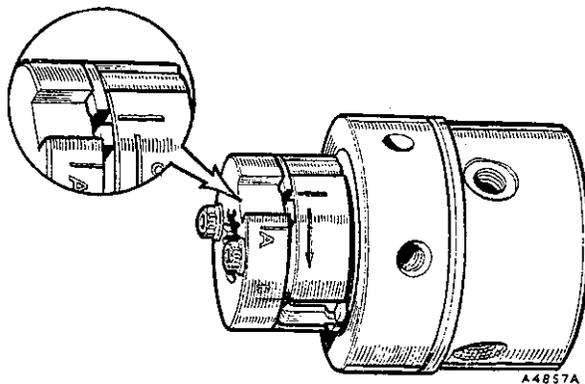
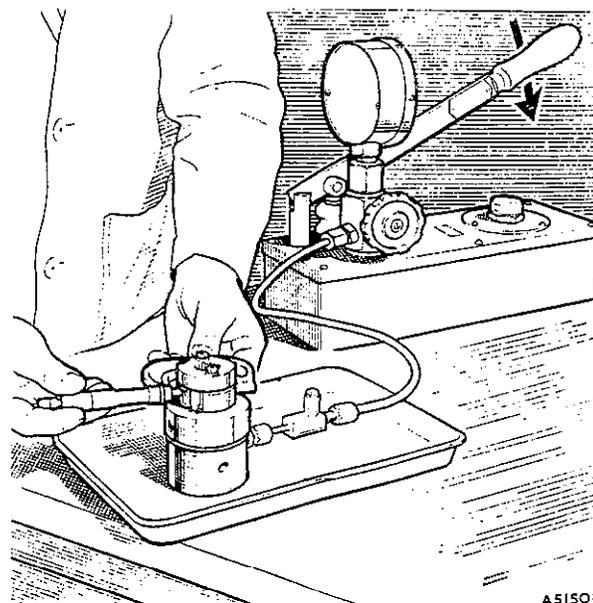

Fig. C.10
Fig. C.12
- (44) Withdraw the rotor from the hydraulic head and fit the top adjusting plate so that the slot in its periphery is in line with the mark on the rotor (see Fig. C.10).
- (45) Fit the drive plate to the rotor with its relieved face next to the top adjusting plate and the slot in the periphery of the drive plate in line with the mark on the rotor (see Fig. C.10). Tighten the drive plate screws lightly and insert the roller and shoe assemblies into their guides in the rotor. Make sure that the contour of the roller shoe ears conforms with the contour of the eccentric slots in the top adjusting plate.
- (46) Fit the bottom adjusting plate, engaging its slots with the lugs on the top adjusting plate, and ensuring that the contour of the eccentric slots matches the contour of the roller shoe ears.
- (47) Insert the rotor assembly into the hydraulic head, then fit and lightly tighten the transfer pump rotor.
- (48) Stand the head and rotor assembly on the bench drive plate uppermost. Fit the relief valve timing adaptor **18G 653 A**, preset at 15 atmospheres to high-pressure outlet 'V' on the hydraulic head and connect this assembly to testing machine **18G 109 A** (see Fig. C.12).
- (49) Operate the pumping lever of the testing machine and **turn** the rotor in the normal direction of rotation until the pumping plungers are forced outwards as far as the eccentric slots in the **adjusting** plates will allow; this is the maximum fuel position. Using tool **18G 656**, rotate the adjusting
plates as necessary to set the roller-to-roller dimension at the figure given in 'GENERAL DATA' (see Fig. C.12). Hold the drive plate with tool **18G 641** and tighten the drive plate screws to the torque figure given in 'GENERAL DATA'. Disconnect the adaptor from the hydraulic head.